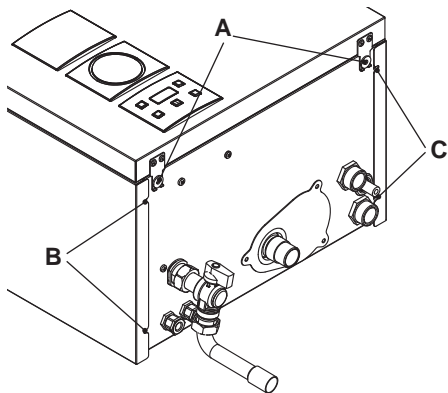
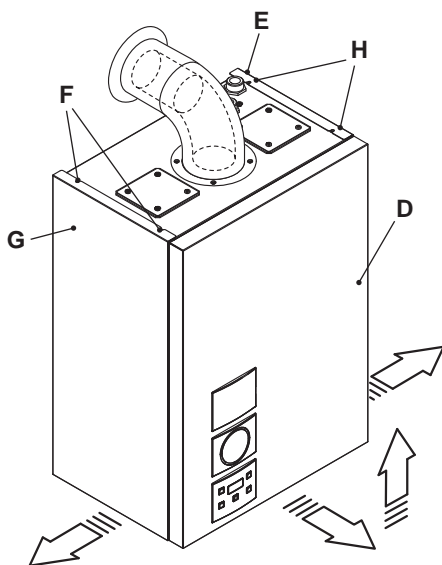

Fig. 9.1
Fig. 9.2
- Unscrew screws A and remove the front panel B by pulling it and pushing it towards the top so that it is freed from the top housings (Fig. 9.1 and Fig. 9.2).
Loosen screws " B- F" and " C- H" in Fig. 9.1 and remove the two side panels E and G by pulling towards the outside.
- Lock in place the panel D with the appropriate screws A (Fig. 9.1).